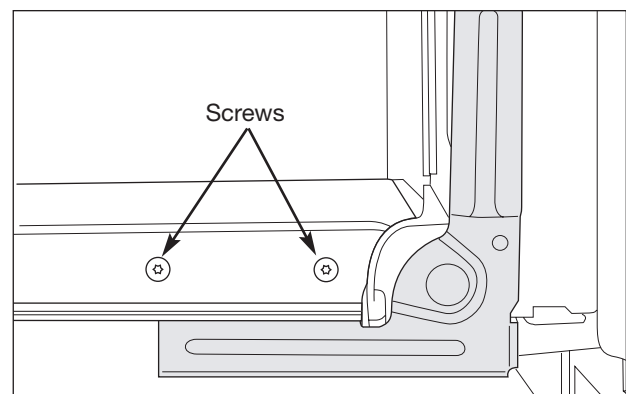

Figure 5-10. Door Removal
4. Open door assembly. Using a #20 Torx bit, extract the 2 screws from each side of the door that secures the door assembly to the hinge assembly. (See Figure 5-10)